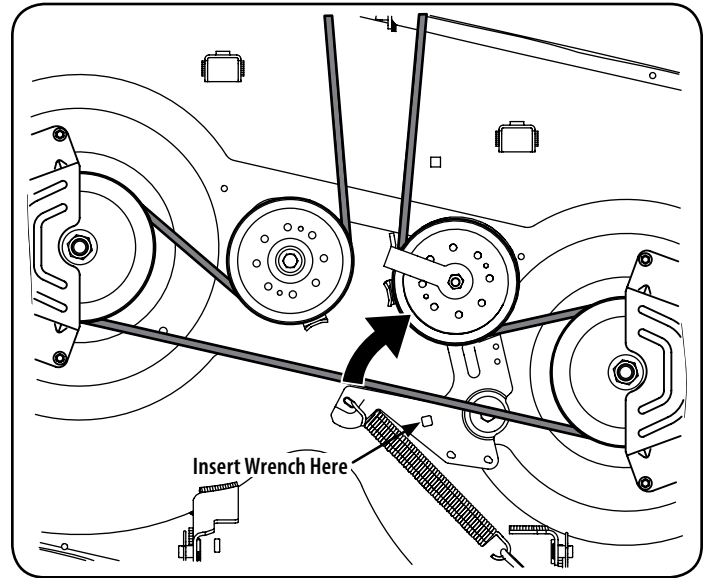

Figure 28
- c. Working on the right side of the tractor, insert a $\frac{3}{8}$ " drive ratchet wrench, set to tighten, into square hole found on the idler bracket. See Figure 28.